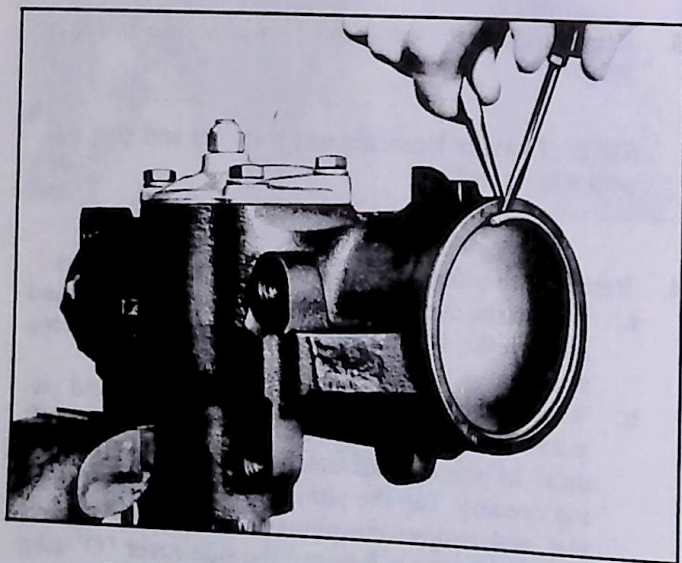

Fig. 32—Removing End Cover Retaining Ring
1. Rotate end cover retainer ring so that one end of the ring is over the hole in the side of the housing. Force the end of the ring from its groove and remove ring (fig. 32).